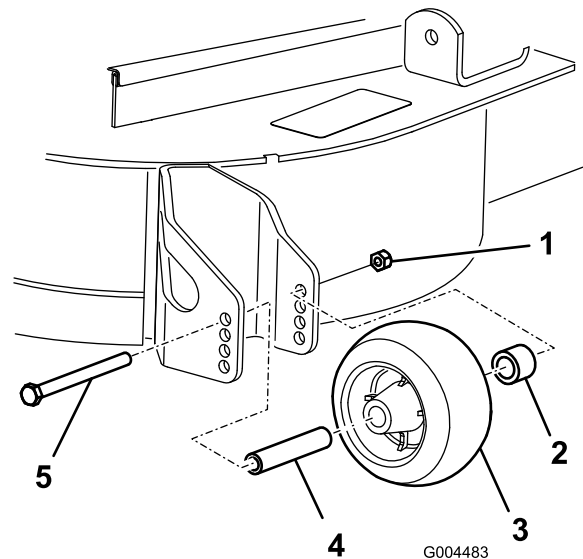

Figure 8
3. After adjusting the height-of-cut, adjust the rollers by removing the flange nut, bushing, spacer, and bolt (Figure 8).
5. Install the flange nut, bushing, spacer, and bolt. Torque to 54-61 N-m (40-45 ft-lb) (Figure 8).